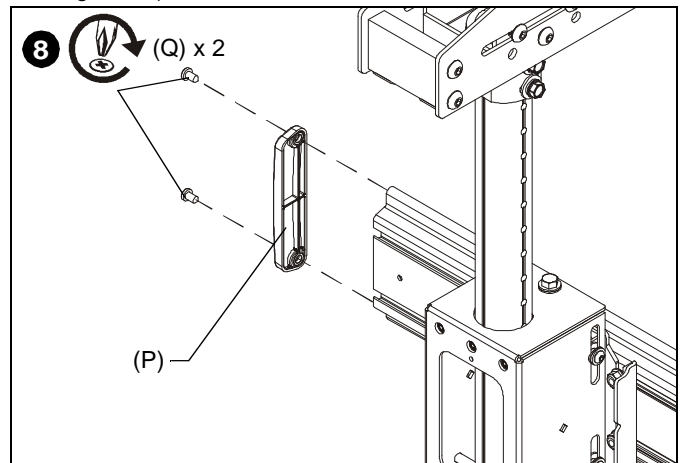

Figure 12
6. Repeat for remaining mounting rail and array heads (X).
7. Tighten bolts which were loosely fastened in array offset (N).
8. Add end cap (P) to end of mounting rail, and fasten in place using two 1/4-20 x 1/2" Phillips pan head screws (Q). (See Figure 12)